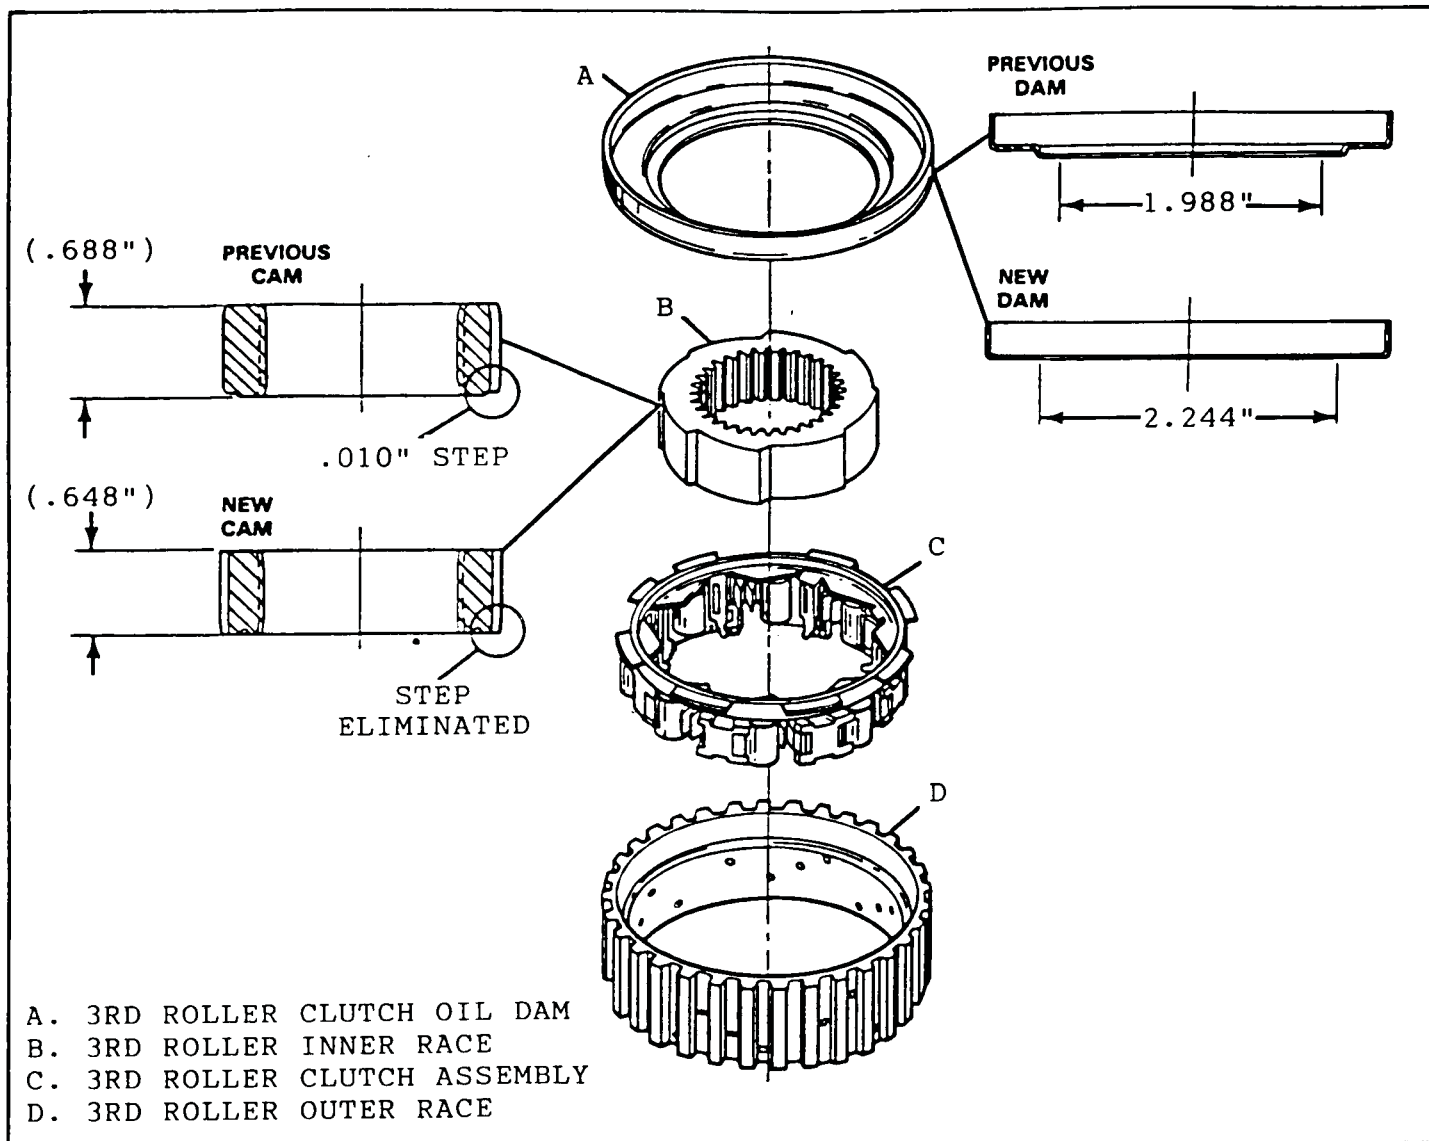

Figure 91
- (4) 3rd Roller Clutch Lube Dam - The inside diameter has been increased by .256" to accommodate the larger diameter new bearing, and the lip on the lube dam eliminated for increased lube flow to the 3rd roller assembly (See Figure 91).
- (5) 3rd Roller Clutch Inner Race - Has been machined .040" thinner to accommodate the increased thickness of the new bearing assembly (See Figure 91).